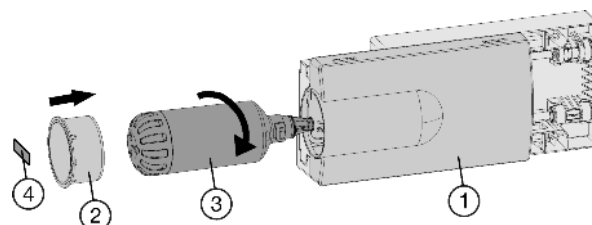

Fig. 9
- ▶ Insert the water filter *Fig. 9 (3)* and turn it approximately 100° clockwise until it locks into position.
- ▶ Slide the tray *Fig. 9 (1)* in.
- ▶ Place the cover *Fig. 9 (2)* on the filter.
- ▶ Write the date of the next filter replacement on the supplied adhesive label *Fig. 9 (4)* and affix it to the module.